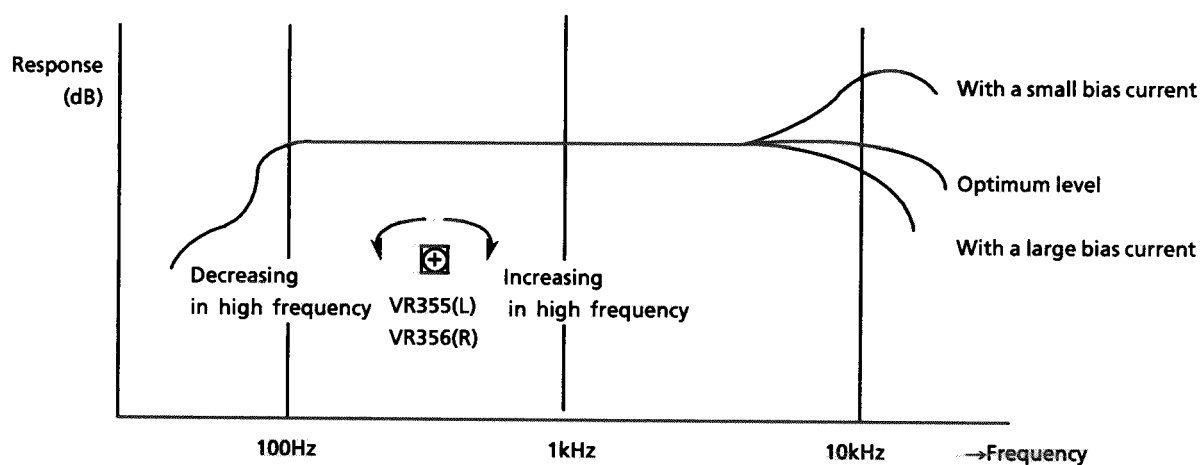
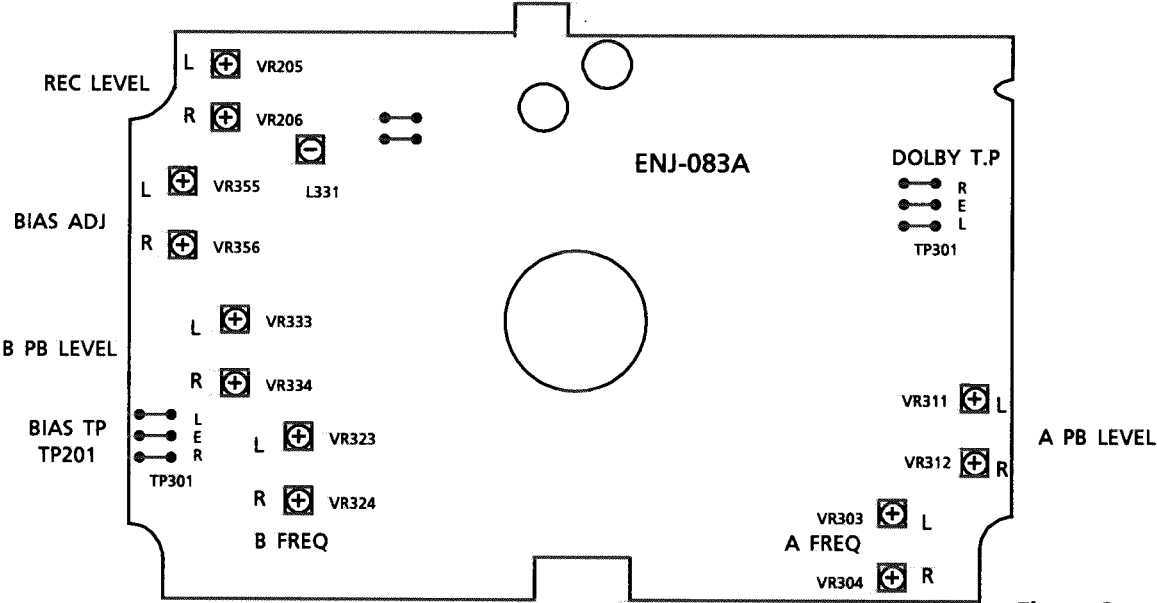

Figure 2
Figure 3
| Head azimuth        | <p>Deck A</p> <ol style="list-style-type: none"> <li>1. Connect an electronic voltmeter to the DOLBY TP (figure 3) to playback VTT-703L.</li> <li>2. Adjust screw ① so that the indication of the voltmeter becomes maximum when PLAY (▶) is pressed.</li> <li>3. Adjust screw ② so that the indication of the voltmeter becomes maximum when PLAY (◀) is pressed.</li> </ol> <p>Deck B</p> <ol style="list-style-type: none"> <li>4. Adjust screw ③ so that the indication of the voltmeter becomes maximum when PLAY (▶) is pressed.</li> <li>5. Adjust screw ④ so that the indication of the voltmeter becomes maximum when PLAY (◀) is pressed.</li> <li>6. After making the adjustment, apply screw lock to prevent screws ①, ②, ③ and ④ coming loose.</li> </ol> | Maximum        | <ol style="list-style-type: none"> <li>1. Refer to figure 1.</li> <li>2. When the specified characteristic cannot be obtained because of head wear, excessive magnetization, etc., replace the head assembly and adjust the head azimuth. Also, perform the electric adjustment.</li> <li>3. When there is the difference of more than 3 ~ 4 dB between left and right output levels, replace the head assembly to avoid complaints.</li> </ol> |
| Wow & flutter       | <ol style="list-style-type: none"> <li>1. Connect the wow &amp; flutter meter to the DOLBY TP (figure 3) and play back VTT-712.</li> <li>2. Its reading should be within 0.2% (WTD).</li> </ol>                                                                                                                                                                                                                                                                                                                                                                                                                                                                                                                                                                        | Less than 0.2% | As a complaint may occur if the wow & flutter fluctuates by 0.1% even though it is allowed in the standard, repairing is required.                                                                                                                                                                                                                                                                                                              |
| Tape Speed                                      | 1. Connect a frequency counter to the DOLBY TP (figure 3) and play back VTT-712.2. Adjust the semi-fixed resistor VR948 on ENJ-083.                                                                                                                                                                                              | VR948                                                            | 3,000 Hz$\pm 10$ Hz                              | Connect a wow & flutter meter with a built-in frequency counter to the speaker terminals.                                                                                                                                                                 |
| Standard level (Playback Level)                 | 1. Connect an electronic voltmeter to the DOLBY TP (figure 3).Play back VTT-724 (1 kHz : -4dBs) to adjust the semi-fixed resistors.                                                                                                                                                                                              | Deck AL: VR311R: VR312Deck BL: VR333R: VR334 | 488mV(-4dBs)                                     | 1) The playback level varies when the head is replaced so should be adjusted.Use an electronic voltmeter with an impedance of 100 k $\Omega$ or more.                                                                                                 |
| Playback Frequency Response                     | 1. Connect an electronic voltmeter to the DOLBY TP (figure 3).2. Play VTT-703L (10kHz : -10dBs) and adjust semi-fixed resistors to obtain the standard values.                                                                                                                                                                   | Deck AL: VR303R: VR304Deck BL: VR323R: VR324 | 245mV(-10dBs)                                    | —                                                                                                                                                                                                                                                         |
| Recording Bias Frequency                        | 1. Connect a frequency counter to the BIAS TP (figure 3), and perform a recording to adjust bias frequency.                                                                                                                                                                                                                          | L331                                                             | 100 kHz$\pm 5$ kHz                               | Set the BEAT CUT SWITCH to "1".                                                                                                                                                                                                                           |
| Record / Play Frequency Response (Bias current) | 1. Supply 1kHz and 12.5kHz with 30mV signals to PHONO/AUX terminals respectively to record them.2. Connect an electronic voltmeter to the DOLBY TP (figure 3) to confirm the recorded values.3. If the values are not satisfied, adjust the semi-fixed resistors and record the signal again to confirm the recorded values. | L: VR355R: VR356                                             | 0 $\pm 2$ dBwith1 kHzas thestandard. | Refer to figure 2 below.1) The recording and playback frequency response of a cassette deck are adjusted by adjusting the bias.2) Perform the adjustment with normal tape and confirm that the values are within the range for metal tape. |
| Record / Playback Sensitivity   | 1. Input a 1kHz (300mV) signal to AUX terminal and record it with a normal tape.2. Connect an electronic voltmeter to the DOLBY TP (figure 3) to confirm the values.3. If the values are not satisfied , adjust the semi-fixed resistors and record the signal again to confirm the values.                                    | L : VR205R : VR206 | -5.5dBs (411mV)                             | Adjust with normal tape and make sure that the left / right level difference is 1.0dB or less     |